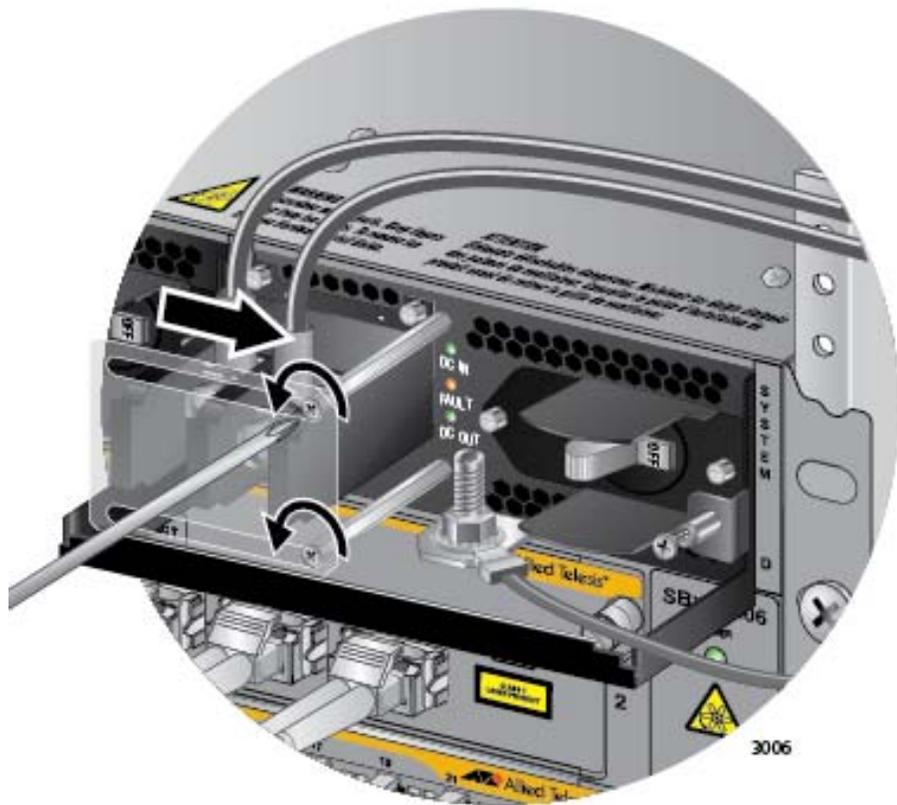

Figure 143. Opening the Plastic Window on the Terminal Block
4. Use a #1 screwdriver to loosen the two screws that secure the plastic cover over the terminal block and slide the cover to the right. You may need to slightly lift the locking handle to access the bottom screw. Refer to Figure 143.